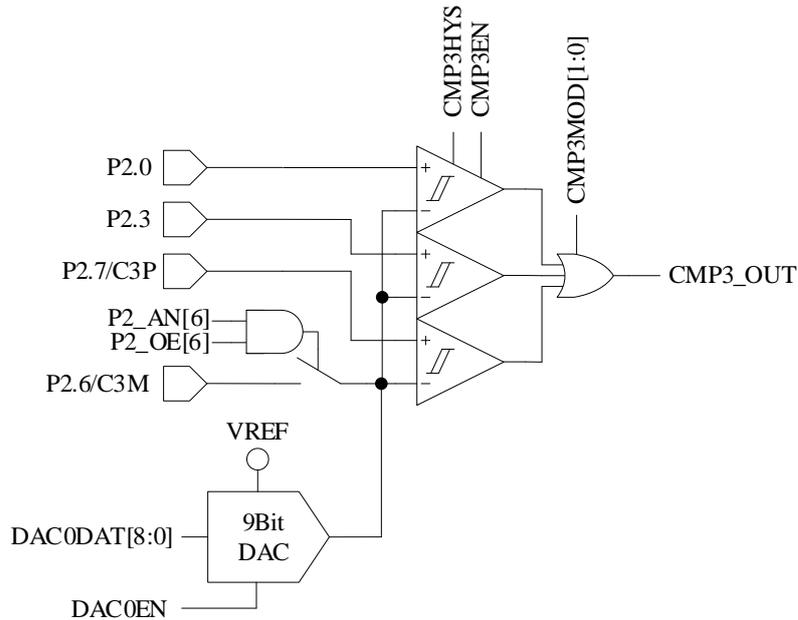

Figure 27-4 Triple-comparator Input Mode
- When CMP3MOD = 1X, CMP3 works in triple comparator input mode. The connection of input and output pins are shown in Figure 27-4.